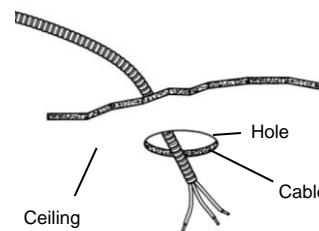

Fig. 3
3. Run armored cable (BX) or non-metallic (NM) cable (also known as Romex) from your circuit breaker or fuse panel to the 3 1/4" (8,3 cm) hole, providing 6" (15,2 cm) to 8" (20,3 cm) of slack extending below the hole. Cable having up to 12 AWG wiring may be used. (Fig. 3) (**WARNING - Use cables having wires rated 90°C or more.**)